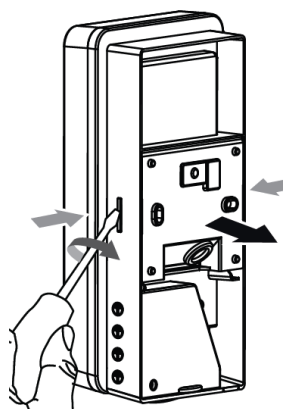

Fig.1
- Remove the mounting bracket with the aid of a flat headed screwdriver by pushing in the two securing clips on either side then carefully ease the bracket away from the body of the fitting. (see Fig. 1)